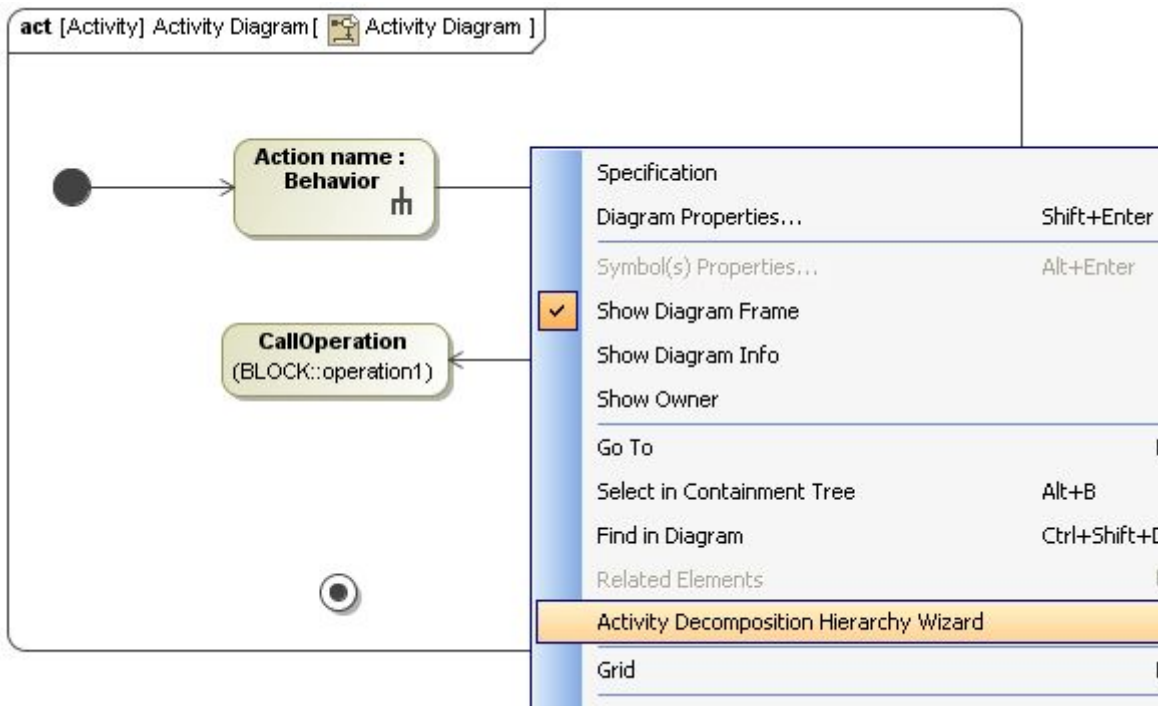

Figure 184 -- Activity Decomposition Hierarchy Wizard Shortcut Menu
- **Activity Decomposition Hierarchy Wizard** on the SysML Activity Diagram shortcut menu (Figure 184),